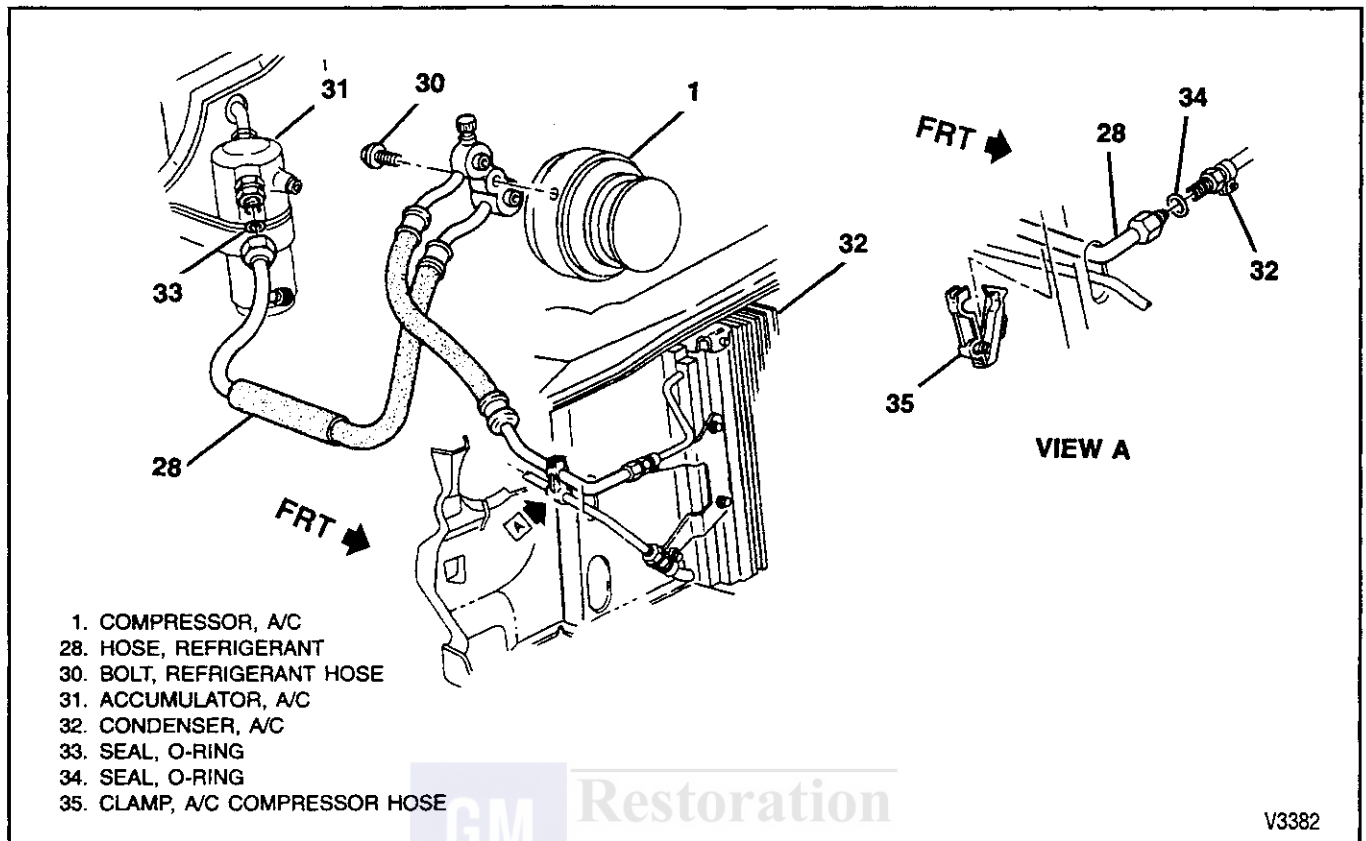

Figure 28—Compressor and Condenser Hose Assembly
- Suburban Models (7.4L Engines and Aux. Heater): refer to figure 28.